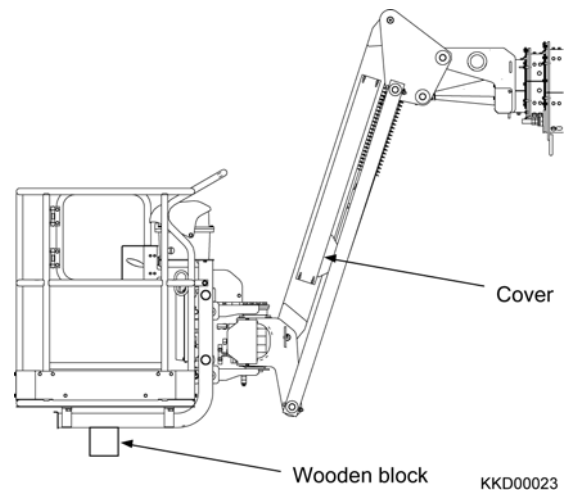

Fig. 2-48
- 3) Take the cover on the right side of the fly-jib off. (Fig. 2-48)
- 6) Install the cover on the right side of the fly jib. (Page. 2-23, Fig. 2-48).